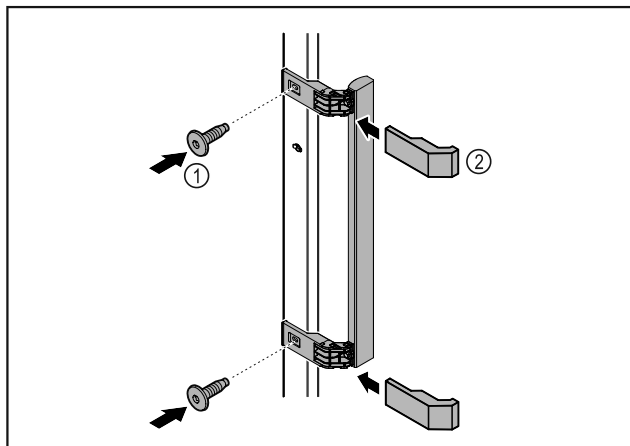

Fig. 5
- ▶ Attach handle from accessory kit to the door using the screws supplied Fig. 5 (1).
- ▶ Put on cover Fig. 5 (2).